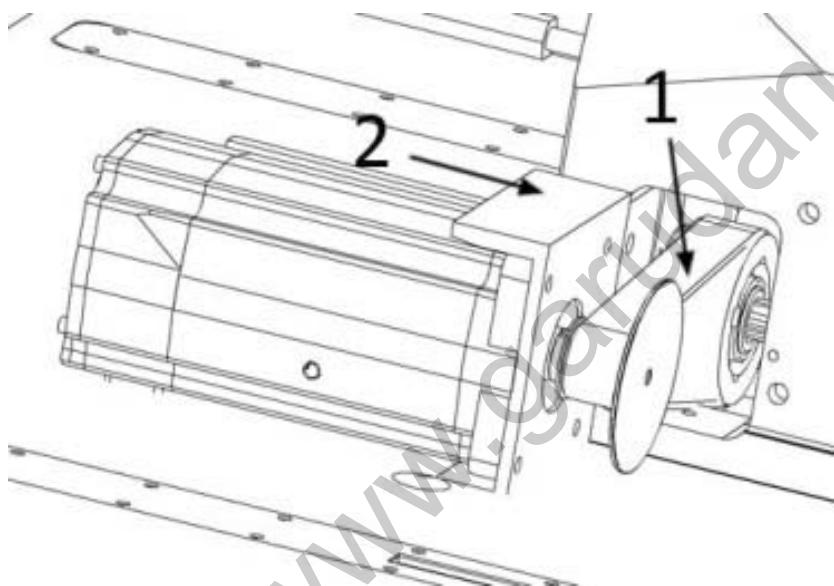

Fig. 55
A. Timming belt 1, fig. 55, of X axis has frequency from 150 to 180 Hz. The tension of the belt can be regulated by the movement of holder 2 where is situated tension screw which is, supported by the arm of the machine. Motor and timming belt can be reached after taking off back cover of the machine head